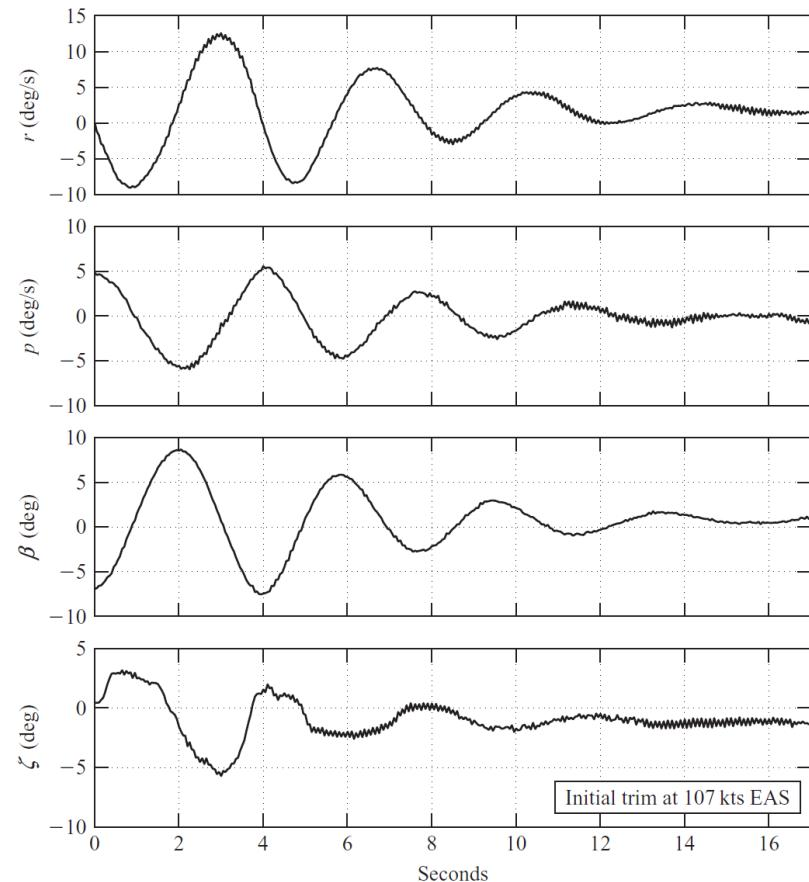

Figure 7.13 Flight recording of the dutch roll mode.
- This free response is shown in the flight recording in Fig. 7.13 which was made in a Handley Page Jetstream aircraft.